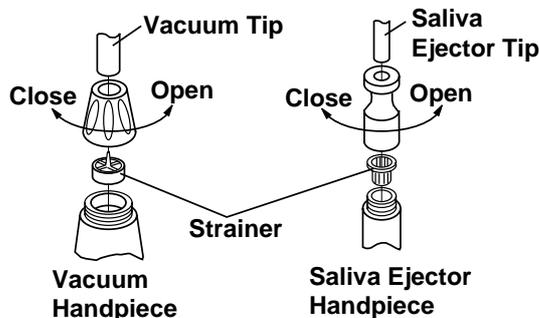

Fig.5-2 Vacuum and Saliva Ejector Handpiece
(2) Vacuum Handpiece and Saliva Ejector Handpiece
A. Unscrew and remove the top portion of each handpiece and clean the stainer located inside the handpiece. (Fig.5-2)